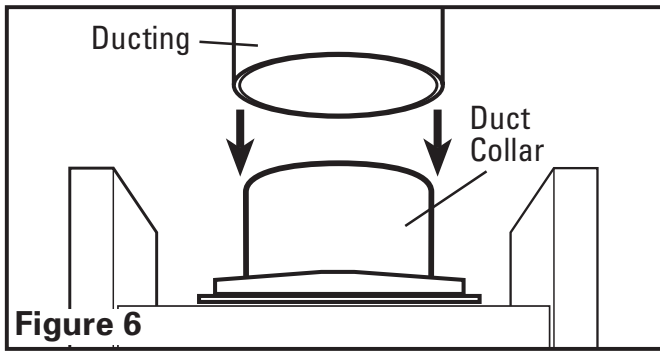

Figure 6
1. Connect the ducting to the fan's duct collar (**Figure 6**). Secure in place using tape or screw clamp. Always duct the fan to the outside through a wall or roof cap.